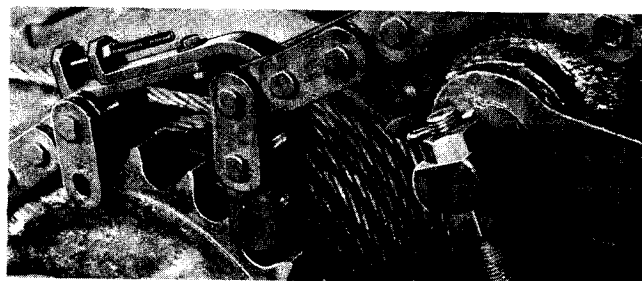

FIG. 14
4. Install the crowd chain around the drive sprocket, over the take up sprocket and around the crowd drum sprockets. Use the chain connecting tool, shown assembled in Fig. 14, for ease in inserting the pin.
3. Bolt the crowd rope drum shaft bearings to the front of the revolving frame and connect the crowd roller chain. (A chain connecting tool for holding the ends of the chain while the connecting pin is being inserted is included in the tools and supplies. See figure 14 in Section VI.)